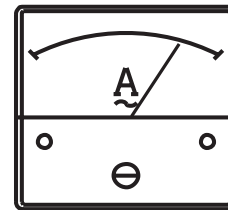

Figure 33. AC Ammeter (Load)
11. Observe the generator's **AC ammeter** (Figure 33) and verify it reads the anticipated amount of current with respect to the load. The ammeter will only display a current reading if a load is in use.